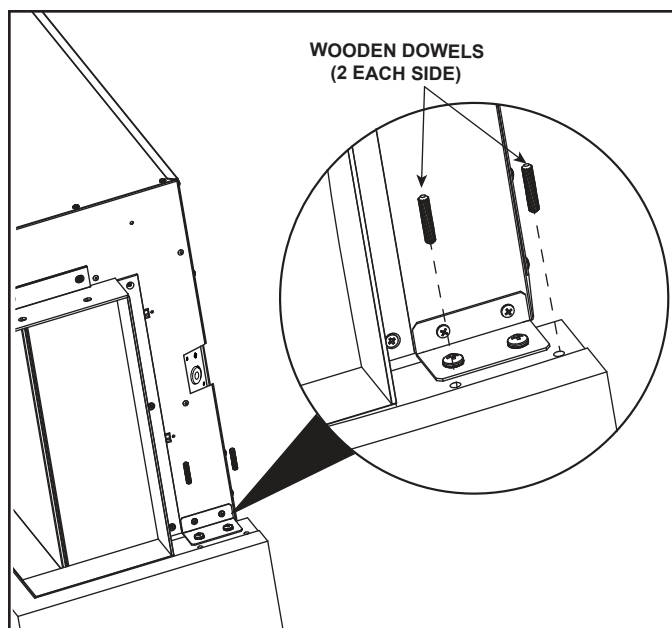

Figure 18
7. Insert the four (4) wooden dowels into the open holes of the bottom mantel. See Figure 18.